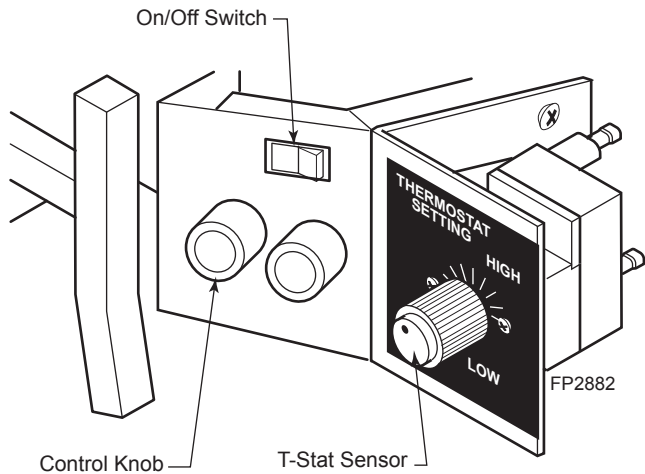

Figure 24 - Control Knob in “ON” Position and ON/OFF Switch in “OFF” Position
2. With control knob in the “ON” position make sure the ON/OFF switch is in the “OFF” position. *Figure 24*